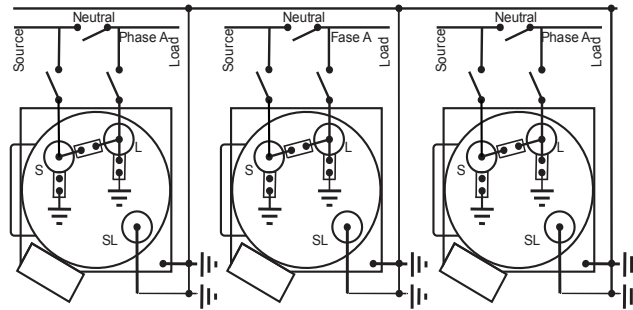

Figure 8: Star connection of three single phase regulators in three phase line with neutral consistently grounded.
- Connections as per Figure 8;